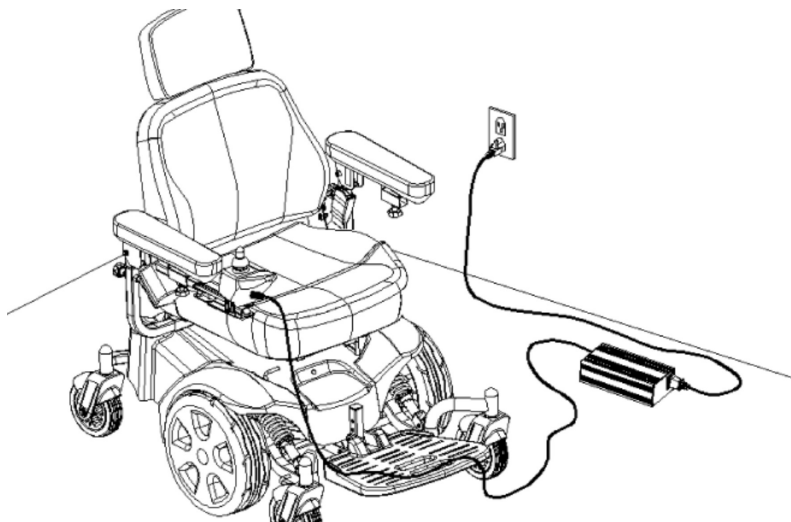

Figure 28. Battery charging
1. Position the front of your power chair next to a standard electrical outlet. (See figure 28)
3. Plug the off-board charger into the off-board charger/programming socket on the controller. (See figure 28)